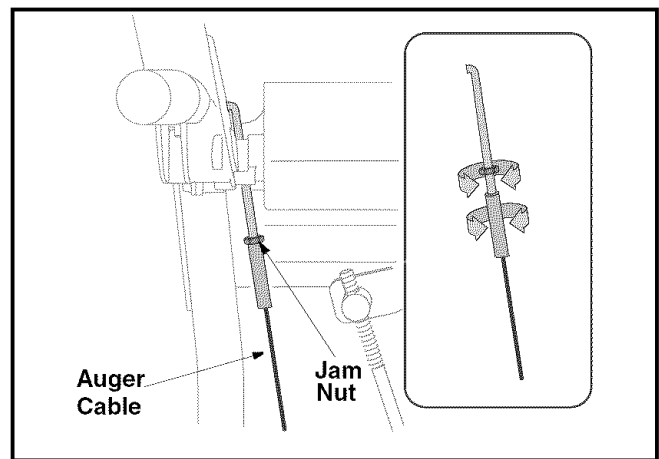

Figure 10
8. If adjustment is necessary, loosen the jam nut and thread the cable in (for less slack) or out (for more slack). See Figure 10.